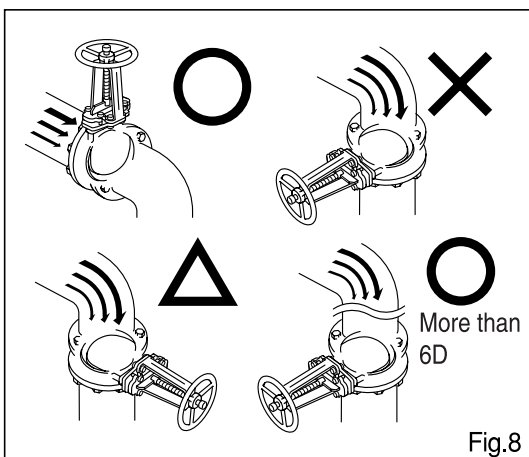

Fig.8
■ **Installation at bending pipe** : During valve installation, direction does not have its limits. However, refer to figure (Fig 8), stem installation direction is to be consider.